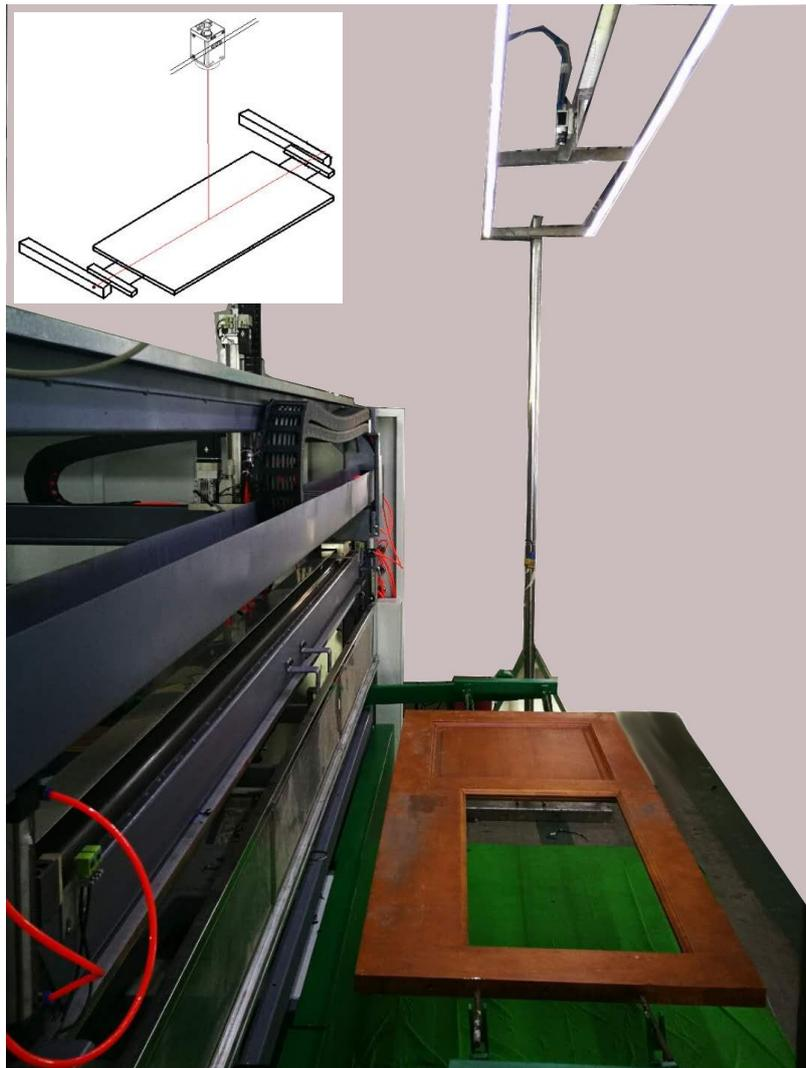

Fig. 19
- Position of the camera: the camera is already calibrated (correction of lens distortion, etc.), so it is important to install it in the same position as the one used for the calibration. The camera must be centered on the load jig middle point as shown in Fig.19, at around 188 cm from the panel surface. Be sure that the camera is perpendicular to the ground and that its orientation is like shown in the picture below.